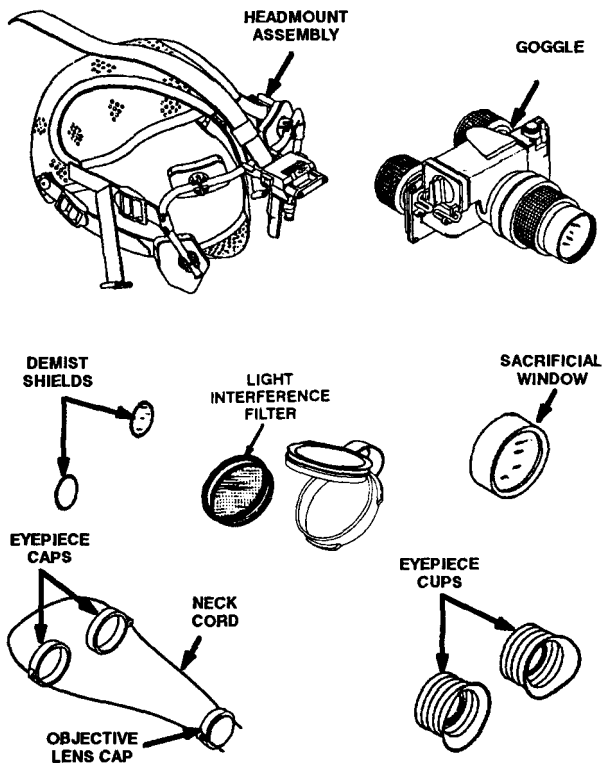

Figure 1-1. AN/PVS-7A Night Vision Goggle.
- c. Purpose of Equipment** The Night Vision Goggle, AN/PVS-7A (see Figure 1-1) provides improved night vision using available light from the night sky. The goggle enables the user to perform normal tasks such as reading, walking, driving on the ground, or surveillance during times of darkness. Throughout this manual the AN/PVS-7A, Night Vision Goggle will be referred to as the NVG.